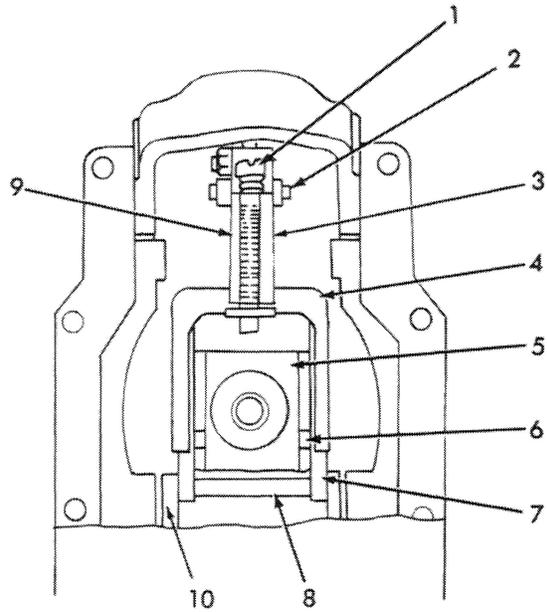

Fig. 26 Adjustable Fulcrum Lever (T-72725)
- 1. Refer to Figure 26. Examine for excessive play between the bracket (4) and fulcrum lever (7).
- 2. The adjusting screw (1) must turn freely in the bracket assembly (4).
- 3. Examine the roll pin in the adjusting screw (1) for wear at the point of contact with the spring plate (3).
- 4. Position the pivot pins (6) by means of the adjusting screw (1) in the mid position.
- 5. Check the fit of the bracket pin (8) with the fulcrum lever (7) and the bracket (10).
- 6. Check the pressure spring (9) for nicks or other possible damage.
- 8. There must not be excessive play between the pivot pins (6) and the slots in the sleeve assembly (5).